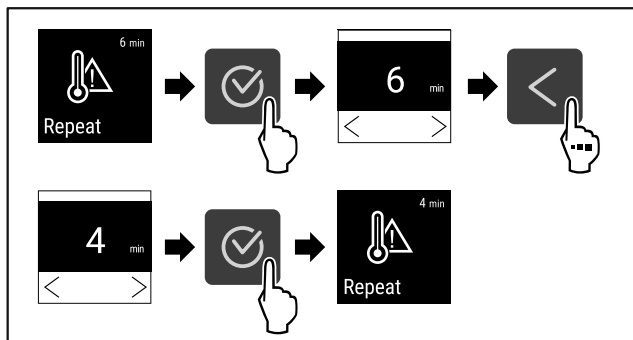

Fig. 109
- ▶ Complete steps (see Fig. 109) .